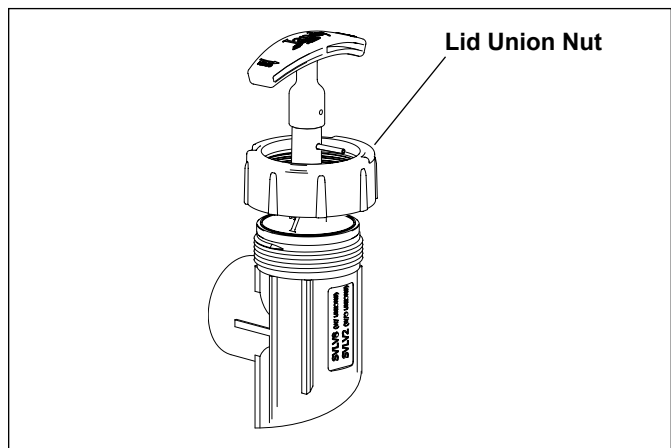

Figure 8. Loosen Lid Union Nut
3. Loosen the lid union nut (see Figure 8).